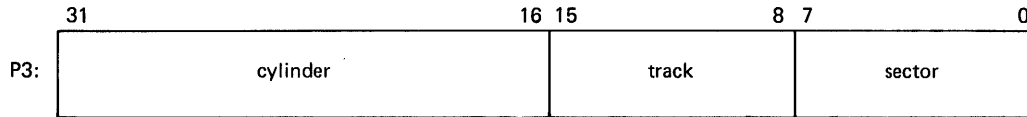

Figure 3-2 Starting Physical Address
- P3 -- the starting physical disk address of the data to be read in the case of a read operation; or, in the case of a write operation, the starting physical address of the disk area that is to receive the data. The address is expressed as sector, track, and cylinder in the format shown in Figure 3-2.
- P1 -- the physical disk address to position to. The address is expressed as sector, track, and cylinder in the format shown in Figure 3-2.